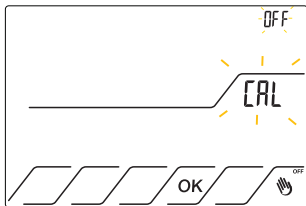

Fig.29
**OFF** e **CAL** appear and flash. When the problem is solved, press OK to unlock the thermostat. Fig.29